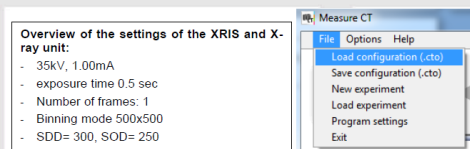
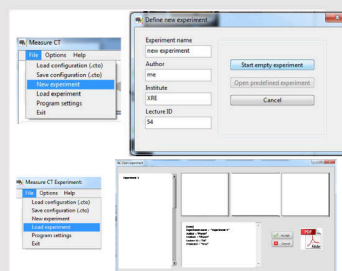

Fig. 4: The settings for this
Fig. 5: How to create a new or open an existing experiment
- Adjust the XRIS settings and X-ray unit settings according to Fig. 4 or load the configuration from the predefined CTO file 'Experiment 5' (see Fig. 5).
- Start a new experiment, give it a unique name and fill in your details (Fig. 5). Alternatively it is also possible to load this experiment with pre-recorded images and open this manual. The correct con-figuration will be loaded automatically as well but the functionalities of the software will be limited to avoid overwriting the existing data.